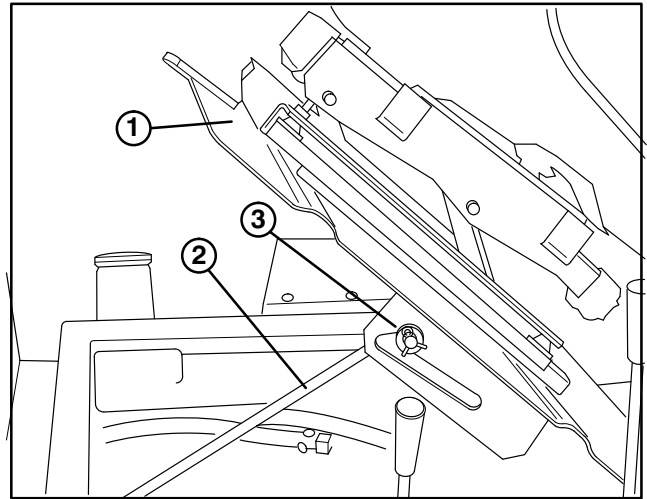

Figure 4
4. Hold mounting plate in upright position with support rod (Fig. 4).
3. Hold mounting plate in upright position with support rod (Fig. 4).